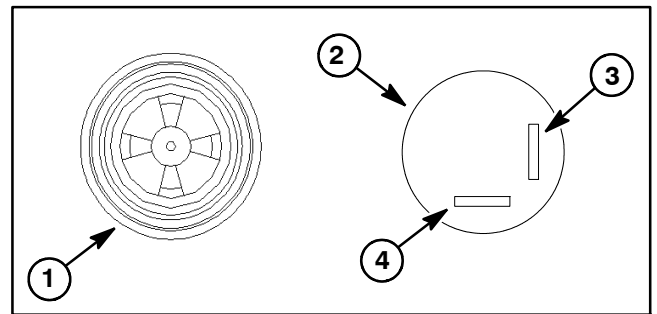

Figure 40
4. Using jumper wires, correctly connect 12VDC source to the alarm terminals noting polarity shown in Figure 40.